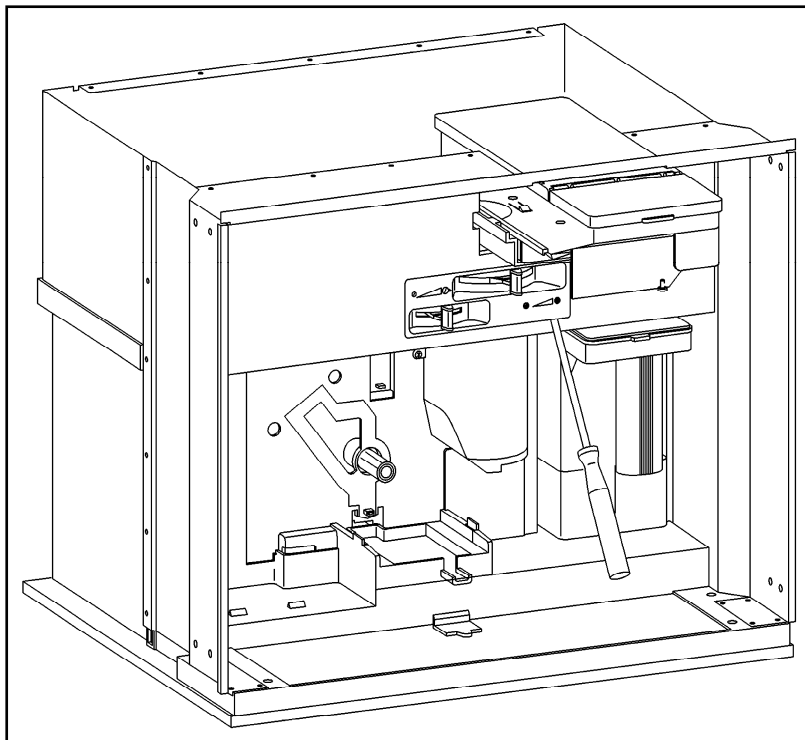

Figure 5-4: Removing the Adjustment Slide Switch Frame (Bezel)
3. Press the retaining lugs inwards with a small screwdriver (Figure 5-4).